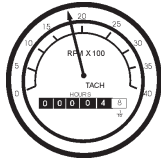

Figure 51. Engine Tachometer Gauge
12. The **tachometer gauge** (Figure 51) will indicate the speed of the engine when the generator is operating. Under normal operating conditions this speed is approximately 1800 RPM's.